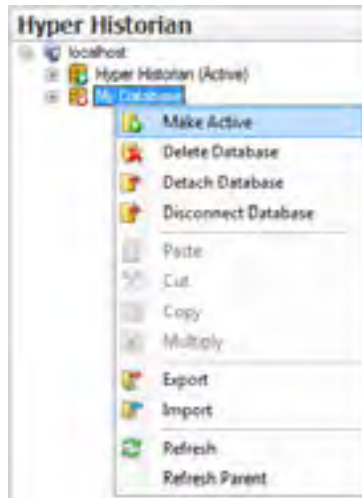

Figure L2.4 - Set Active Database
9. Now set this new database as the **Active** database by right-clicking it and selecting **Make Active** from the drop-down menu, as shown in Figure L2.4.